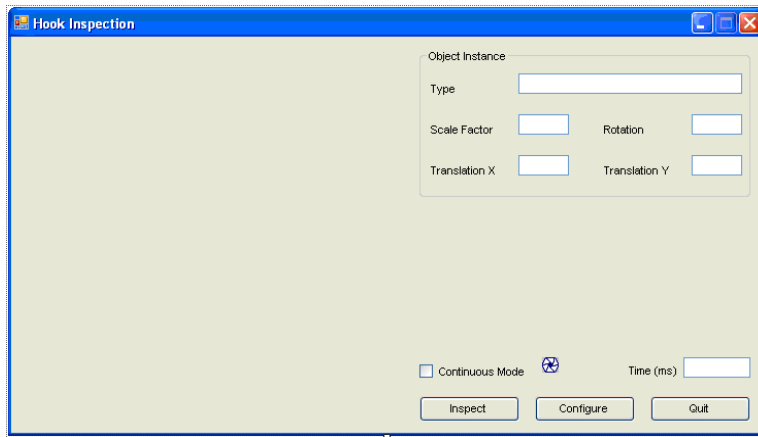

Figure 94 Resized C# Form for Tutorial 2
1. Start by extending the form. Set the width to approximately 735 and the height to approximately 420. Reorganize the text boxes and buttons to look like the form in Figure 94.